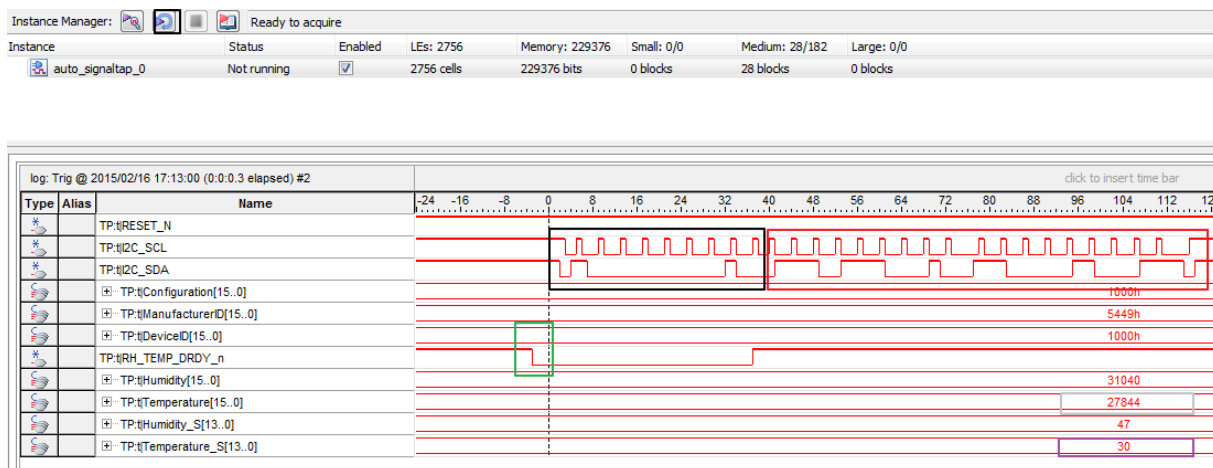

Figure 5-5 Reading the registers of Humidity and Temperature via I2C interface
- Double click the **HC1000.stp** file in the path \DECA_Humidity_Temperature\demo_batch, QuartusII SignalTap II will be activated as shown in **Figure 5-5**.
Figure 5-5 notes: